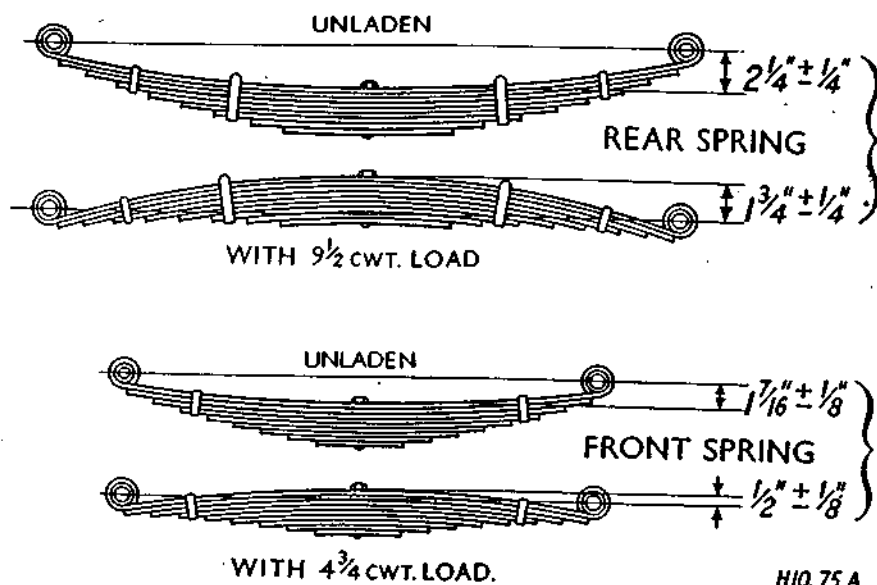

Fig. 1.
5. Using a box spanner release locknuts from the spring clips ("U" bolts), remove spring washers and then holding-down nuts. The spring clips may now be taken away, also the clip pads which are fitted between spring axle. (See Fig. 1, page O/1). Front springs are mounted above the axle, and rear springs are underslung.